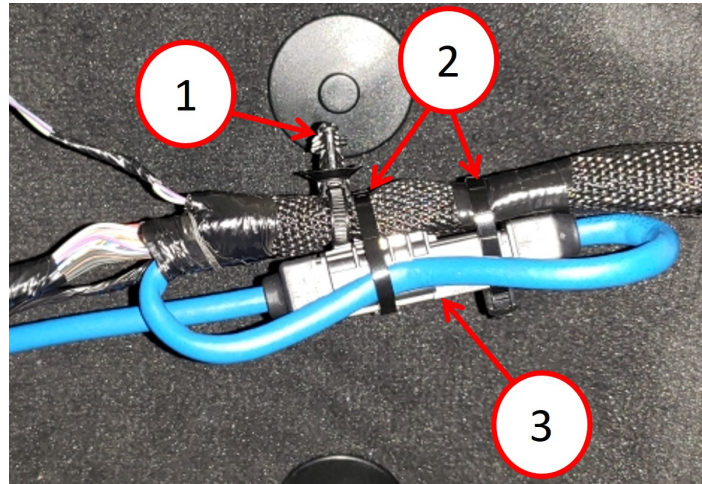

Fig. 4
5. Take the jumper wiring harness and fold it back to the VRM wiring harness at the clip fastener to reduce the length of the harness cable (Fig. 4) .
6. Using tie straps, secure the jumper wiring harness to the VRM wiring harness (Fig. 4) .